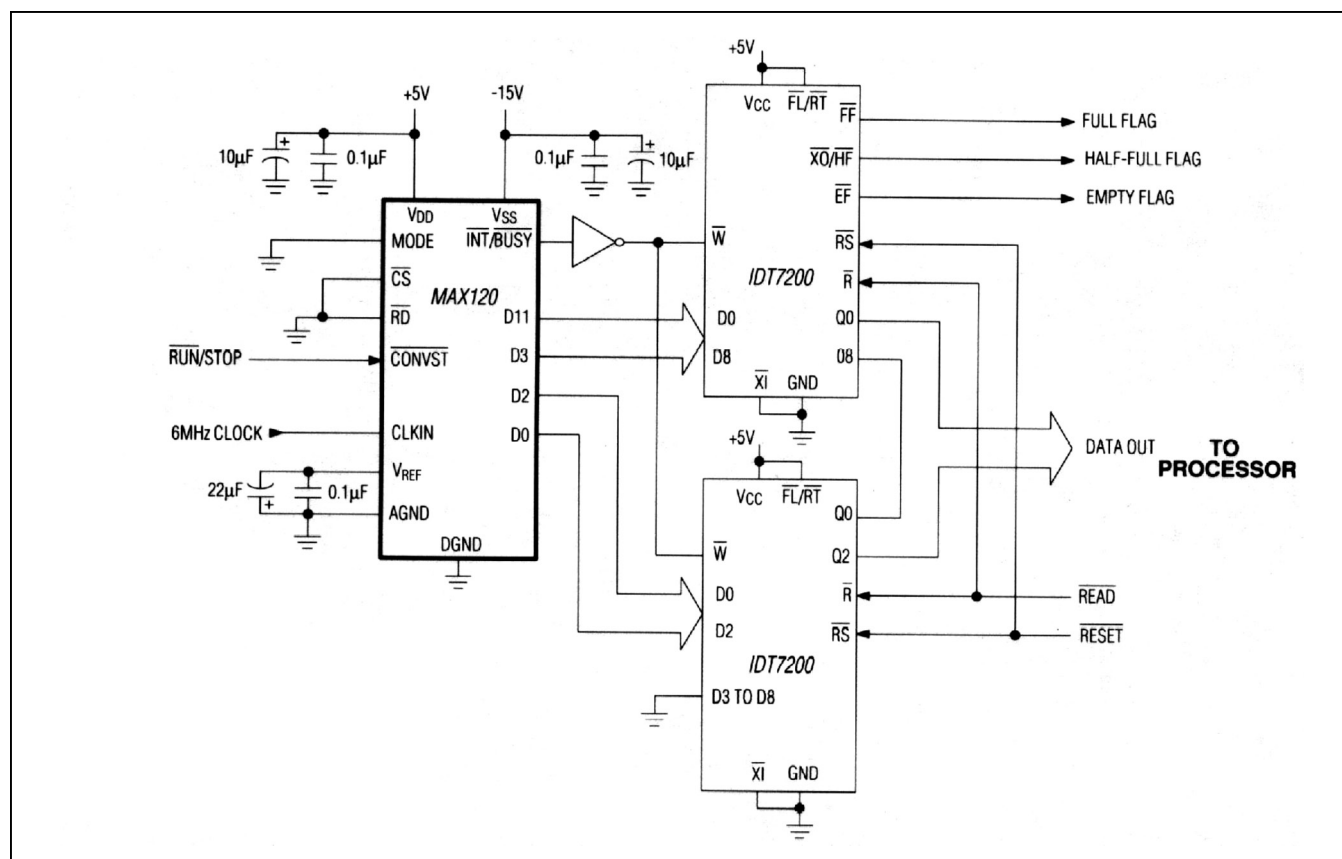

Figure 13. Using MAX120 with FIFO Memory
Using FIFO memory to buffer blocks of data from the MAX120 reduces μP interrupt overhead time by enabling the μP to process data while the MAX120, unassisted, writes conversion results to the FIFO. To retrieve a block of data, the μP reads from the FIFO via a read-interrupt cycle. Read and write operations for the FIFO are completely asynchronous. Figure 13 shows the MAX120 operating in continuous-conversion mode (mode 5), writing data directly into the two IDT7200 256 x 9 FIFO buffers at the rate of 428ksps. The μP is interrupted to read the accumulated data by the FIFO's half-full (HF) flag approximately three times per millisecond. For operation at 500ksps, use an 8MHz clock, and pulse $\overline{\text{CONVST}}$ at 500kHz. The full flag (FF) indicates that the FIFO is full. If this flag is ignored, data may be lost. If necessary, conversions can be inhibited by pulling $\overline{\text{CS}}$, $\overline{\text{RD}}$, or $\overline{\text{CONVST}}$ high. The FIFO's read cycle times are as fast as 15ns, satisfying most system speed requirements. The RESET input resets all data in the FIFO to zero.